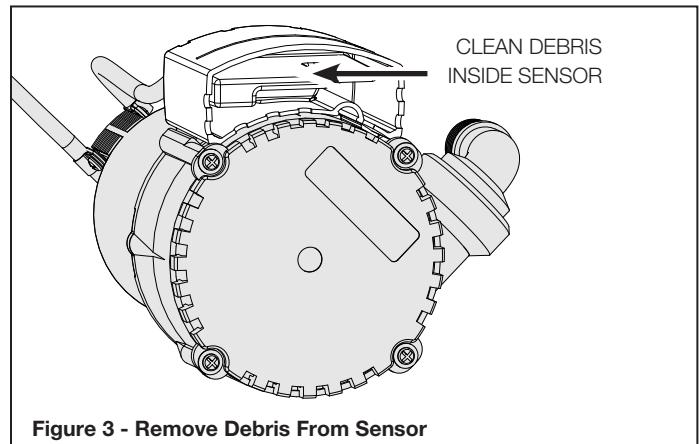

Figure 3 - Remove Debris From Sensor
5. If pump runs continuously, unplug the unit. Once unplugged, check for debris stuck inside the sensor body (Figure 3). Remove any trapped leaves, debris or dirt.